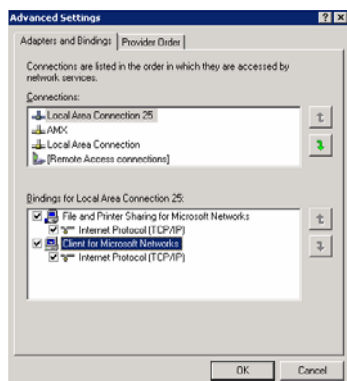
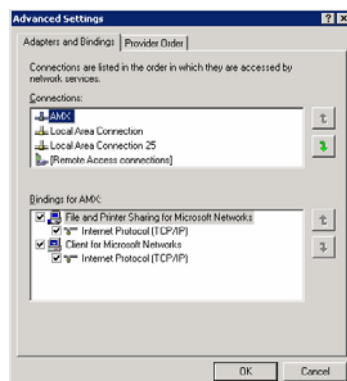

FIG. 110 Advanced Settings window
FIG. 111 Moving the Local Area Connection
3. From the *Advanced* menu, select *Advanced Settings...* to open the *Advanced Settings* window (FIG. 110).
4. Under the *Adapters And Bindings* tab, the user needs to make sure the Local Area Connection is not at the top of the *Connections* list. If it is at the top of the list (FIG. 110), select it and use the *down* arrow to the right of the list to move it to the bottom of the list (FIG. 111).